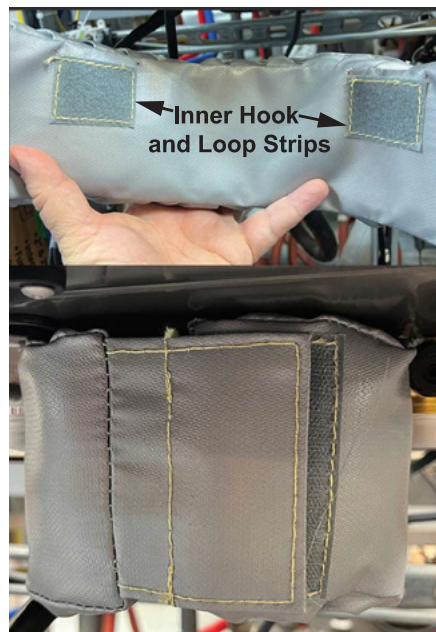

Figure 3 - Insulation Blanket orientation and installation.
- 5 Open the insulation blanket and wrap it around the bypass and heat trace. It is easier to join the ends of the insulation blanket, if you attach it to the bypass cartridge with the ends opening towards the front of the water heater. Note the orientation of the insulation blanket in Figure 3. NOTICE: When joining the hook and loop edges of the insulation blanket do not use excess force on the bypass cartridge.